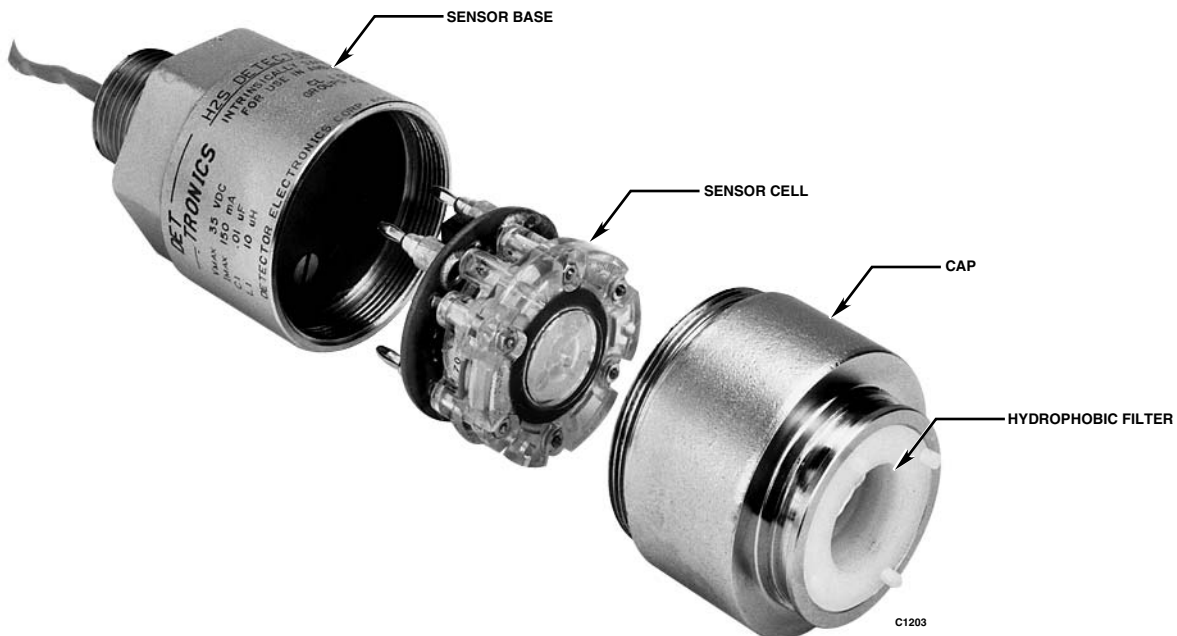

Figure 4—Electrochemical Sensor Parts Identification
2. Remove the cap from the sensor base. See Figure 4. (There is no need to remove the sensor base from the junction box for this operation.)